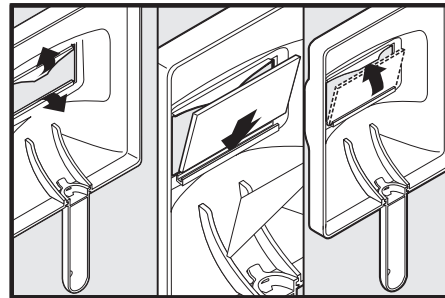

Figure 7
3. Insert filter lens exactly as shown in Figure 7.